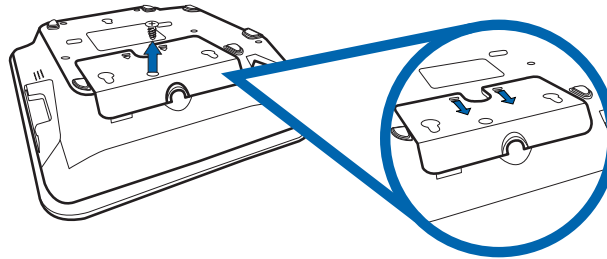

Figure 3 Removing Cable Cover
- 3 Remove cable cover as shown in Figure 3.